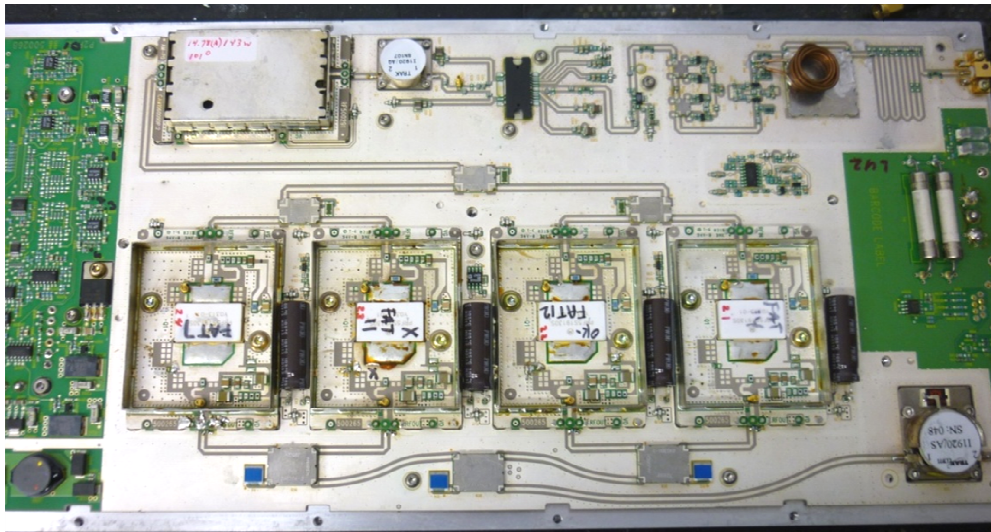

Figure 1: Typical 'pallet-style' amplifier from Andrew Corp (P2PAM)
1. Individual single-device 'pallets' mounted on motherboards with stripline hybrid combiners (for example, Figure 1)